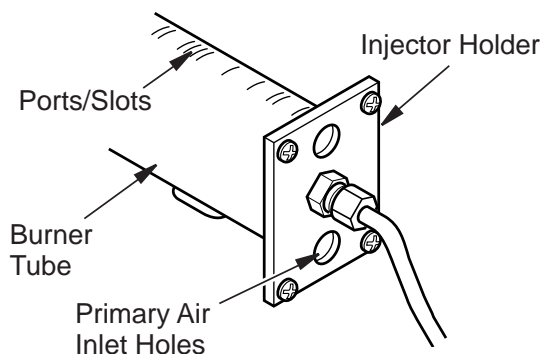

Figure 58 - Injector Holder On Outlet Burner Tube
2. Inspect burner, pilot and primary air inlet holes on injector holder for dust and dirt (see **Figure 58**).